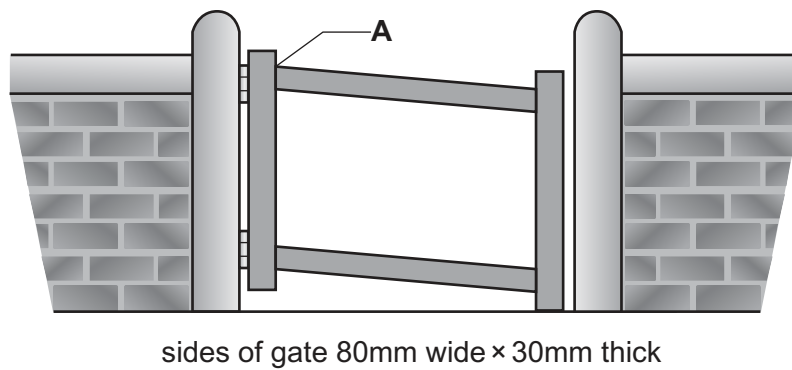

Fig. 5.1
- 5 Fig. 5.1 shows a gate fixed to a wall. The frame of the gate has started to collapse.
- (c) Add sketches and notes to Fig. 5.1 to show how the frame of the gate could have been prevented from collapsing. [2]